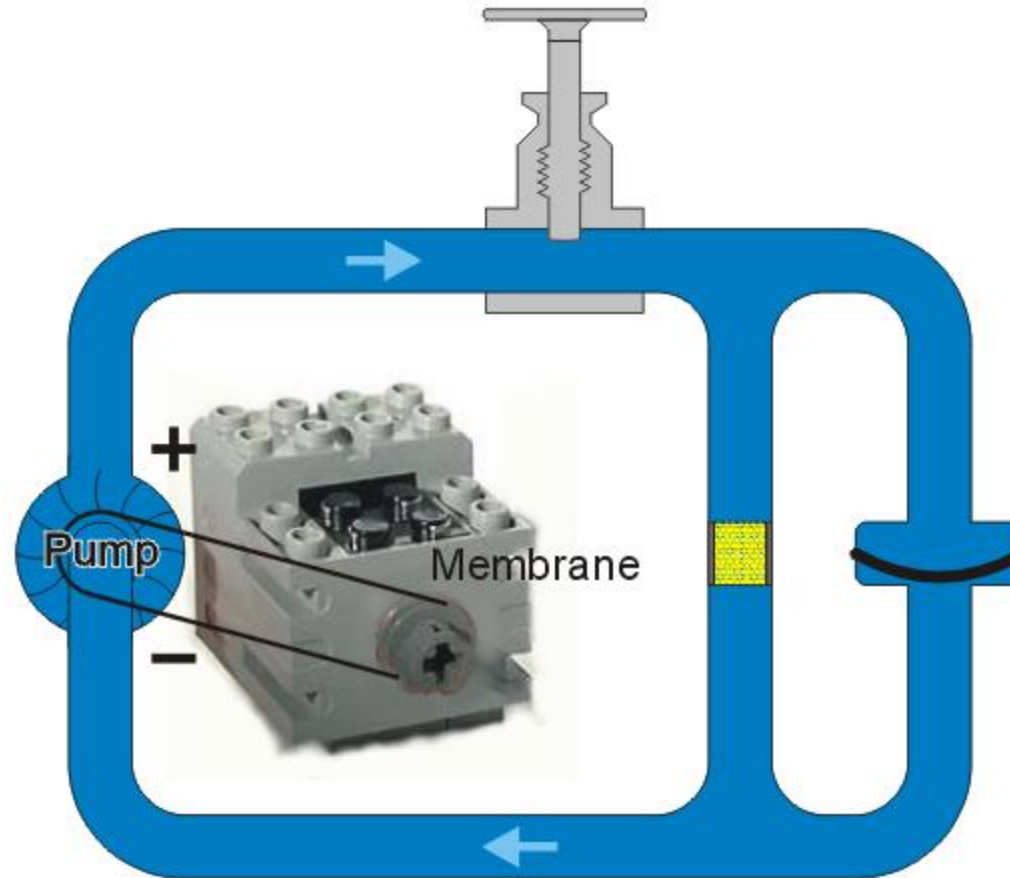

Fig 8: The addition of a valve to the circuit of water.
- Suppose we include a valve which blocks the water flowing from the pump as is shown in **Fig.8**.